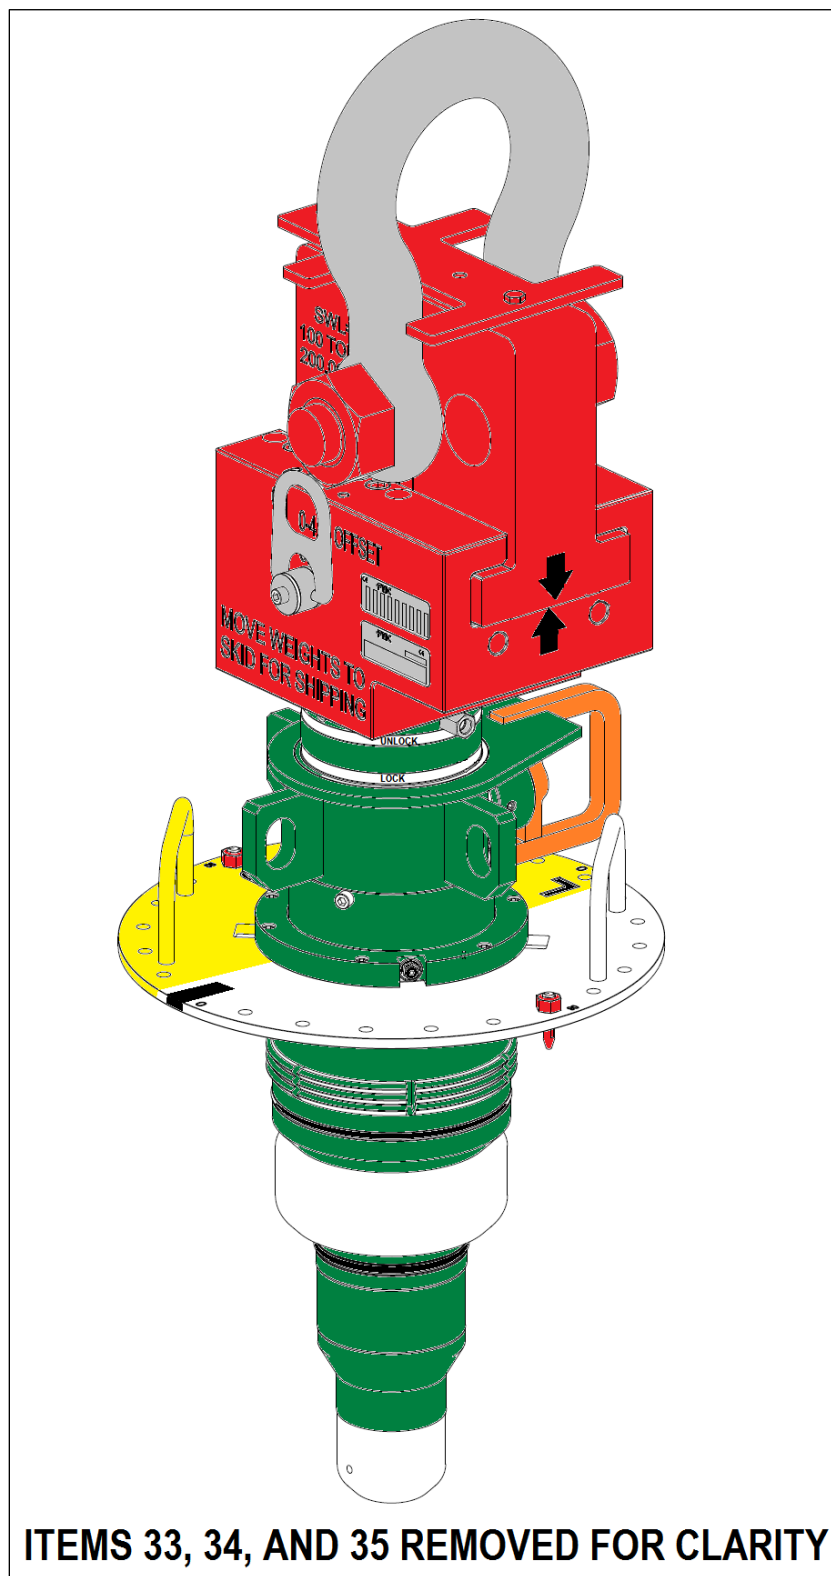

Figure 21: MTRT As-Built
1. Compare the MTRT to the part report and Figure 21 above to ensure that the tool has not been modified from its original as-manufactured form.